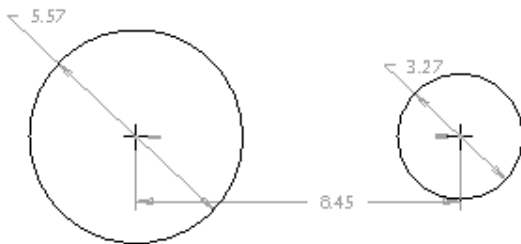

Figure 2-35 Two circles with weak dimensions and constraints
- Draw the sketch by using the sketcher tools, refer to Figures 2-35 through 2-38.
Figure 2-35 shows the two collinear circles drawn by using the **Center and Point** button from the **Sketcher Tools** toolbar.